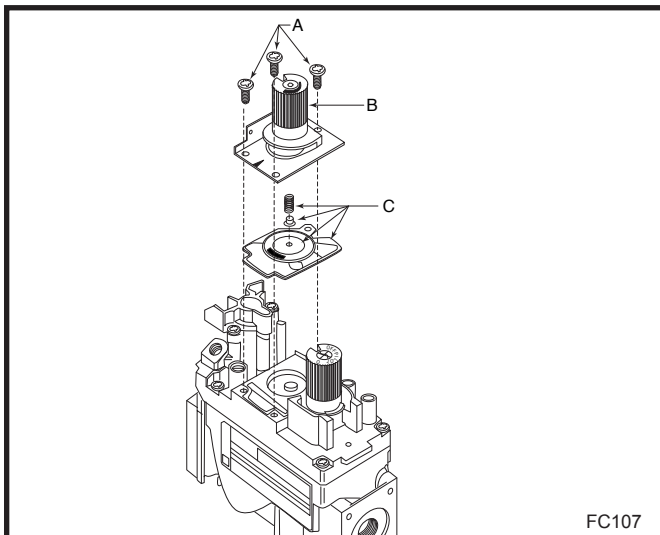

Fig. 41 Remove mounting screws, pressure regulator tower and spring and diaphragm assembly.
1. Using TORX T20 bit, remove and discard the three (3) pressure regulator mounting screws (A), pressure regulator tower (B) and the spring and diaphragm assembly (C). (Fig. 41)